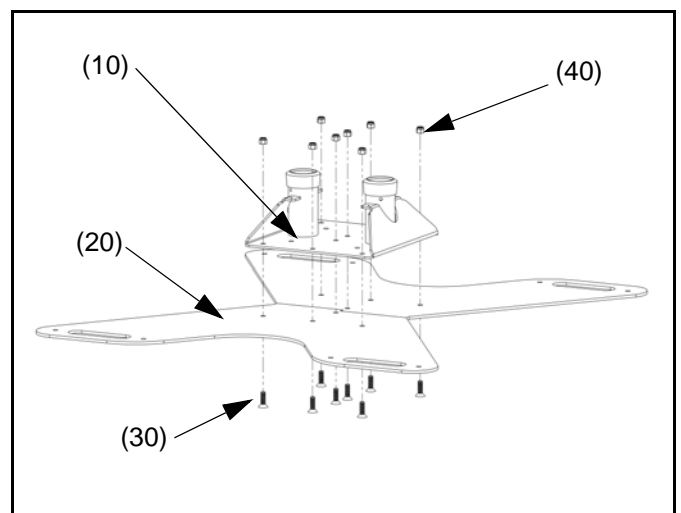

Figure 4: Install Base Plate
1. Place Base (10) upside down
2. Secure Dual Base Plate (20) using eight flat head cap screws (30) and eight 3/8-16 Nylock nuts (50) (see figure 4).
3. Place Base (10) upright.